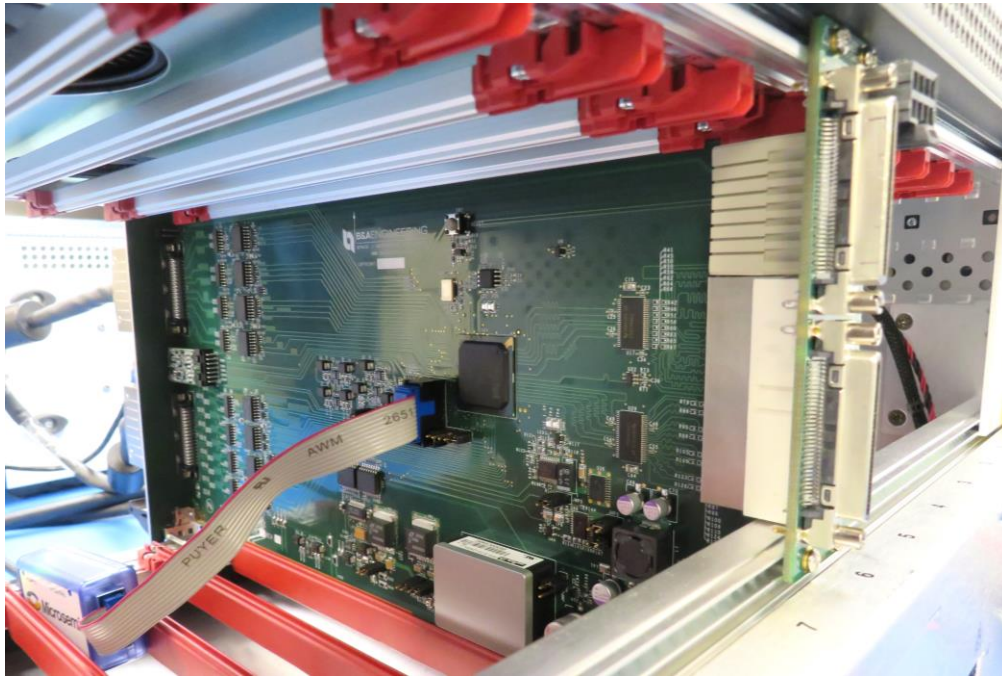

Figure 14. Chassis view with RTI and Module installed
- 5) Ensure the RTI and module mate properly, once aligned and mating is done, tighten the screws. (Figure 14).